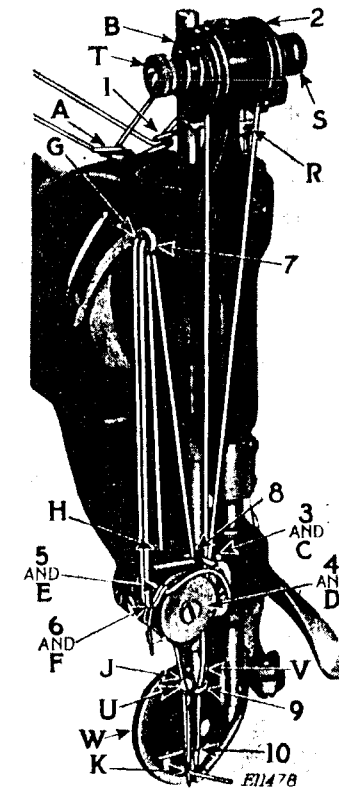

FIG. 5
**Machines 18-25, 18-26 and 18-36.** Turn the balance wheel over from you until the needle bar is at its highest point. Loosen screws (U and V, Fig. 5) and insert the needles as far as they will go up into the needle bar, and with the long grooves of the needles facing each other. Then tighten screws (U) and (V). Note that it is necessary to swing the roller presser (W, Fig. 5) upward in order to make the clamping screw (V) accessible.
**Thread for the outside needle or the one farthest from the balance wheel**—turn thumb nut (T, Fig. 5) to the right to increase thread tension, or to the left to decrease the tension.
**Thread for the inside needle or the one nearest the balance wheel**—turn thumb nut (S, Fig. 5) to the right to increase thread tension, or to the left to decrease the tension.